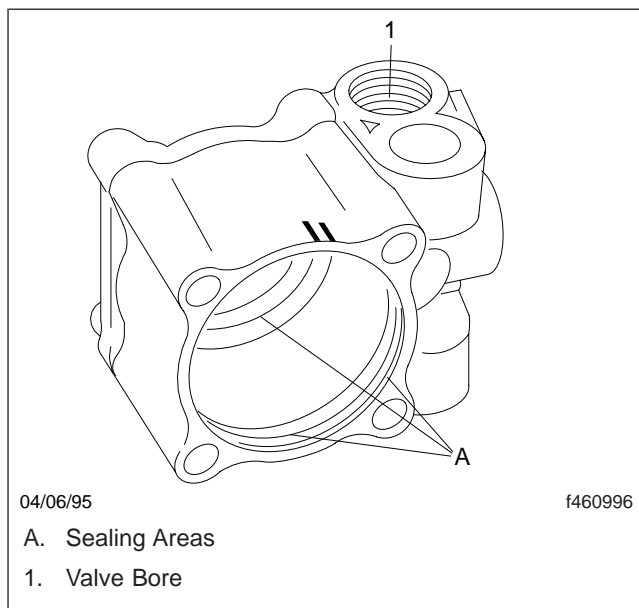

Fig. 18, Housing Inspection Areas
2. Inspect the housing for cracks, stripped threads, a damaged valve bore, and damaged sealing areas. See Fig. 18.